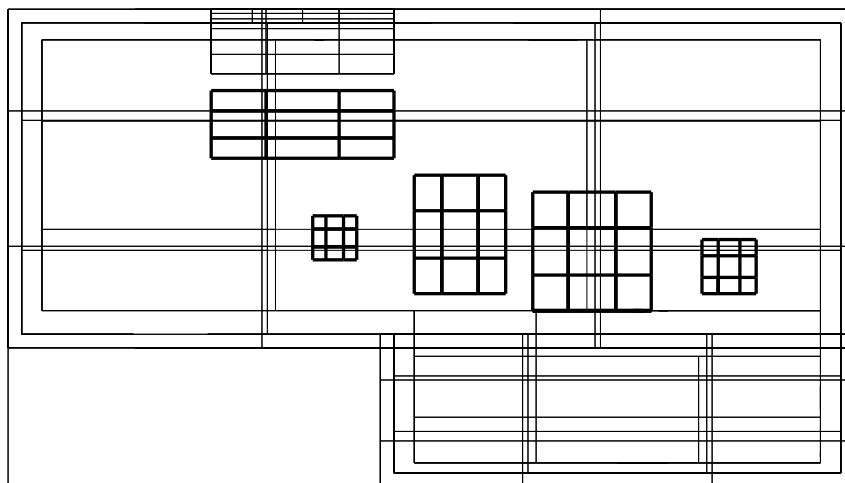

Figure 4.2.6: Five Families of CAD Objects
If you select a group of families in **Airpak**, **Airpak** can convert each family in the group into an **Airpak** object. For example, if the five shapes shown in bold in Figure 4.2.6 represent five different families, you can select all of these families at once and **Airpak** can convert each family into an **Airpak** object.
- (b) Under **Shapes to try**, select the shapes that you want **Airpak** to try to fit to the families. For example, if the five shapes shown in bold in Figure 4.2.6 are to be converted into five prism-shaped blocks, select **hexa** (prism) in the **CAD data** panel and deselect all other shapes under **Shapes to try**.